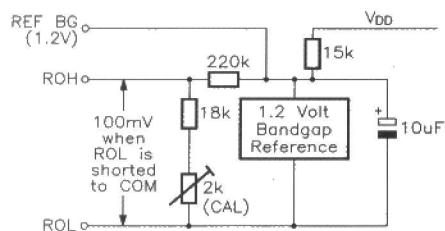

Figure 12. Typical bandgap reference circuit has an input impedance of about 20k.
**Reference Accuracy.** The built-in 100mV reference (between ROH and ROL) of the DPM is factory-calibrated so that the meter reads '100.0mV' (1000) with 100.0mV input applied. This is achieved by adjusting  $V_{ref}$  to compensate for the meter's ratiometric error. If the ratiometric error is 0.1% low (reading 999),  $V_{ref}$  is also set 0.1% low (at 99.9mV) to give the correct 'voltmeter' accuracy. The ' $V_{ref}$ ' reference voltage is only precisely accurate when ROL is tied directly to COM (which is normally 2.8V below VDD), and when ROH is loaded by an impedance greater than 50M $\Omega$  or so. Figure 12 shows the typical circuit of the internal bandgap reference that is fitted to some modules. The circuit's output impedance is about 20k $\Omega$ , so an external loading of 2M $\Omega$  introduces an error of 1% and 20M $\Omega$  an error of 0.1%. The high input impedance of the RFH input causes zero loading error.